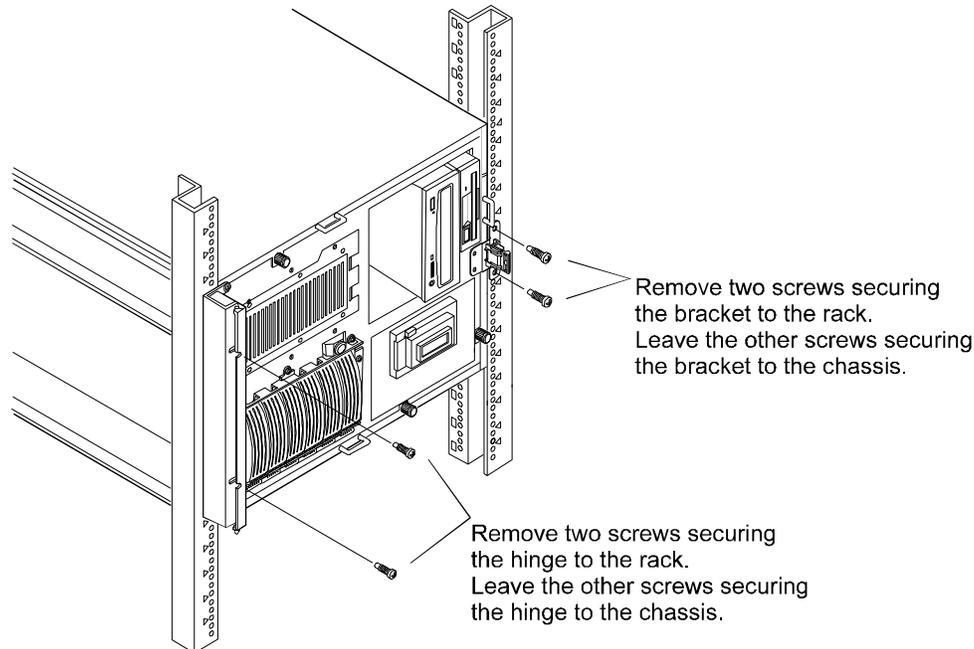
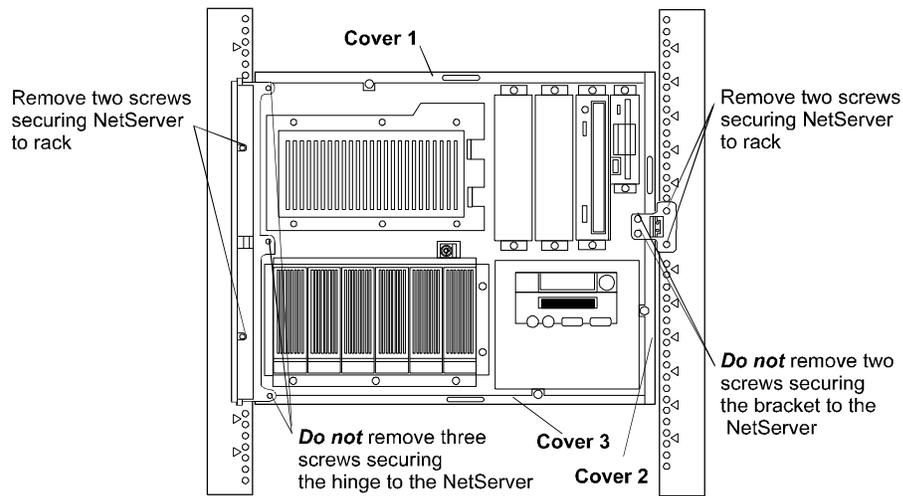

Figure 1-4. Releasing the HP NetServer LH 3r Chassis From the Rack
Figure 1-5. Screw and Cover Locations
1. Unscrew the NetServer chassis from the rack, as shown in Figure 1-4. Do not unscrew the entire hinge or bracket from the chassis; remove only the outer screws, so the hinge and the bracket remain attached to the NetServer chassis (see Figure 1-5).